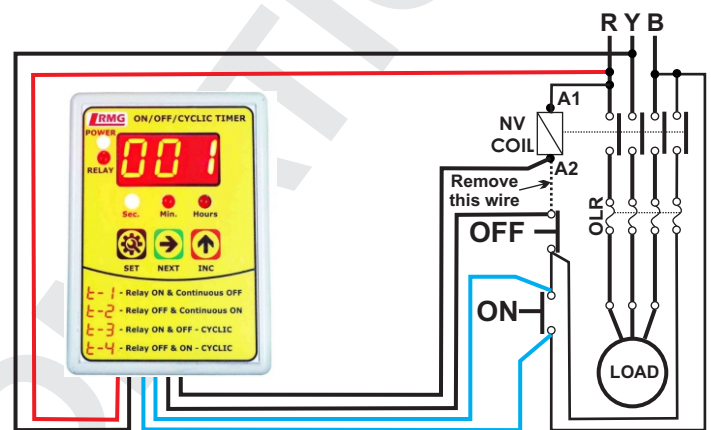
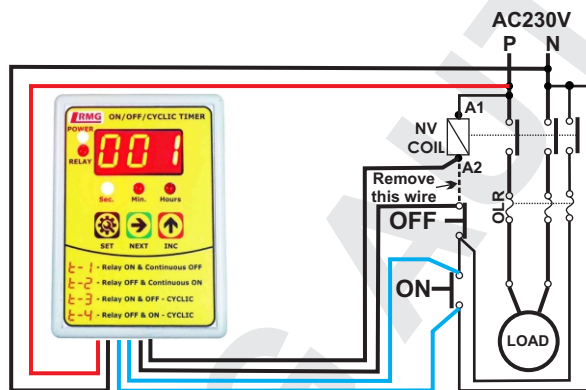

Figure2: 3Φ Starter
Figure3: 1Φ Starter
**Step 4:**For starter, Connect blue pair wire to ON button of starter in parallel and black pair wire to OFF button in series(Refer to figure. 2 and figure. 3)